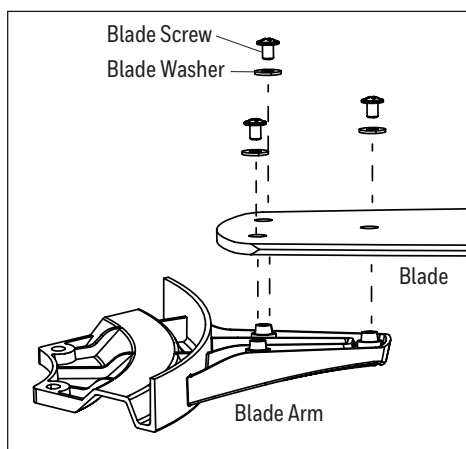

Figure 4.3
- Partially insert the blade screws along with the blade washers through the blade and into the blade arm. Tighten each blade screw with a Phillips screwdriver (not included), starting with the one in the middle. Repeat this step for the remaining blades and blade arms (Figure 4.3).